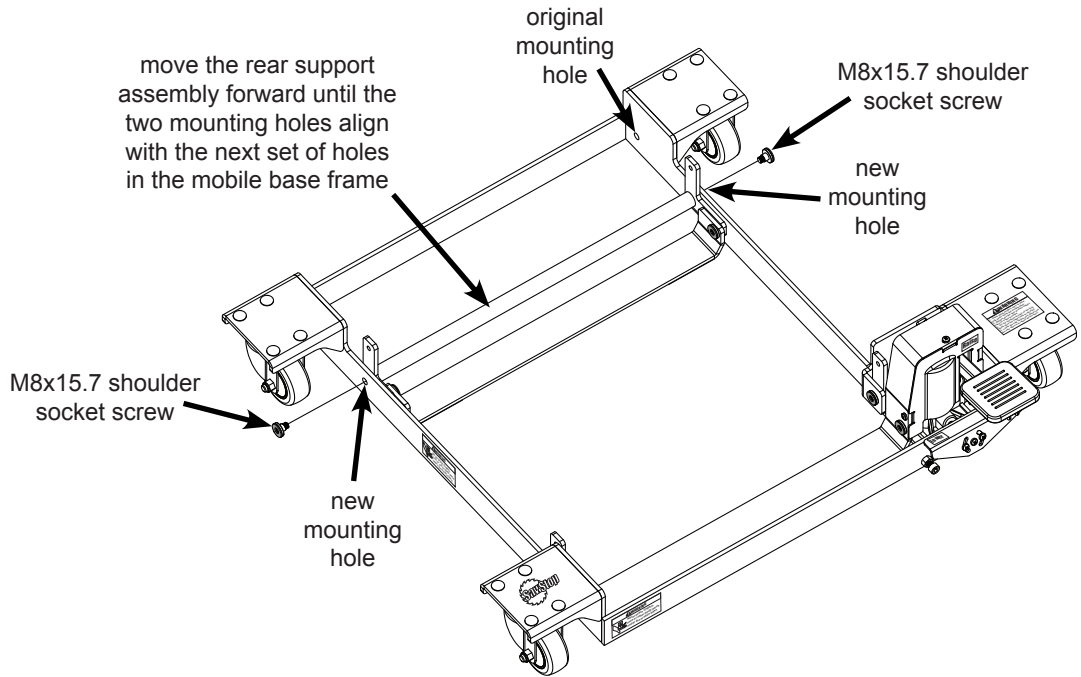

Fig. 4
- Take the rear support assembly and move it forward until the two mounting holes align with the next set of holes in the mobile base frame, as shown in Fig. 4. Mount the rear support assembly to the mobile base frame with two new M8 x 15.7 shoulder socket screws from the hardware bag. Fully tighten the two M8 x 15.7 shoulder socket screws with a 5 mm hex key.